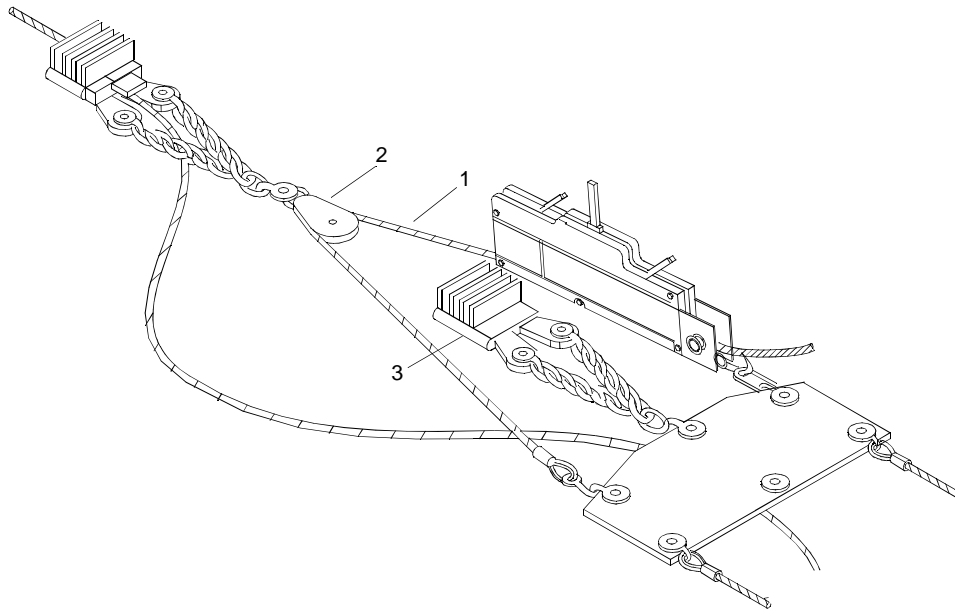

Figure 15. Tensioning Mooring Cable (1)
- d. Continue taking up hoist cable (figure 15, item 1) until snatch block (figure 15, item 2) nears second carpenter stop (figure 15, item 3).